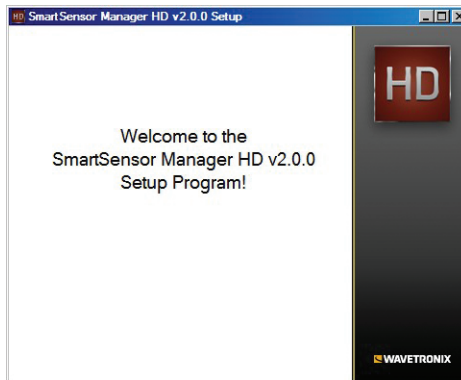

Figure 3.1 – SSMHD Setup Wizard
- 6 Once you've downloaded the file, double-click on it. Opening it executes a setup program that will copy all the necessary files to your hard drive and place icons in the Start menu and on the desktop of the PC or laptop (see Figure 3.1).